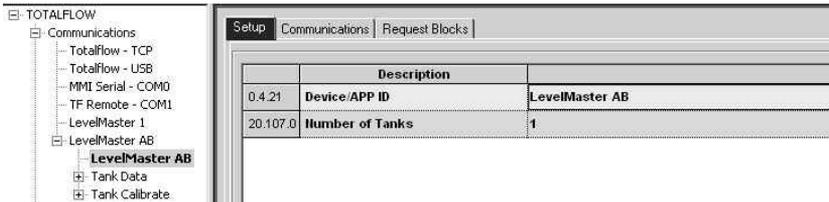

Figure 13. Define LevelMaster Application
- 3B** In the Applications tab, locate Application Slot 20. Click in the Type field to open the drop-down menu, and select LevelMaster. Click the Send button. The application will load. Locate the LevelMaster application in the tree view, and click on it (see Figure 13). The LevelMaster Setup screen displays. Assign a name in the Device/APP ID field and then the number of tanks in the Value field. Click the Send button.